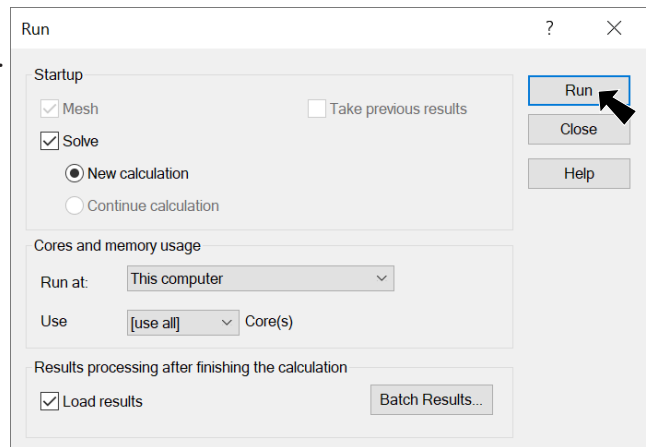

Fig. 14
Step 2. Click **Run** in the Run dialog box, **Fig. 14**.